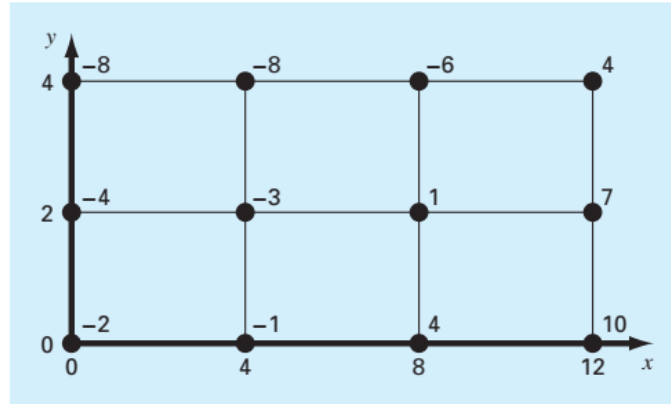

FIGURE P19.15
19.15 Determine the average value for the data in Fig. P19.15. Perform the integral needed for the average in the order shown by the following equation: